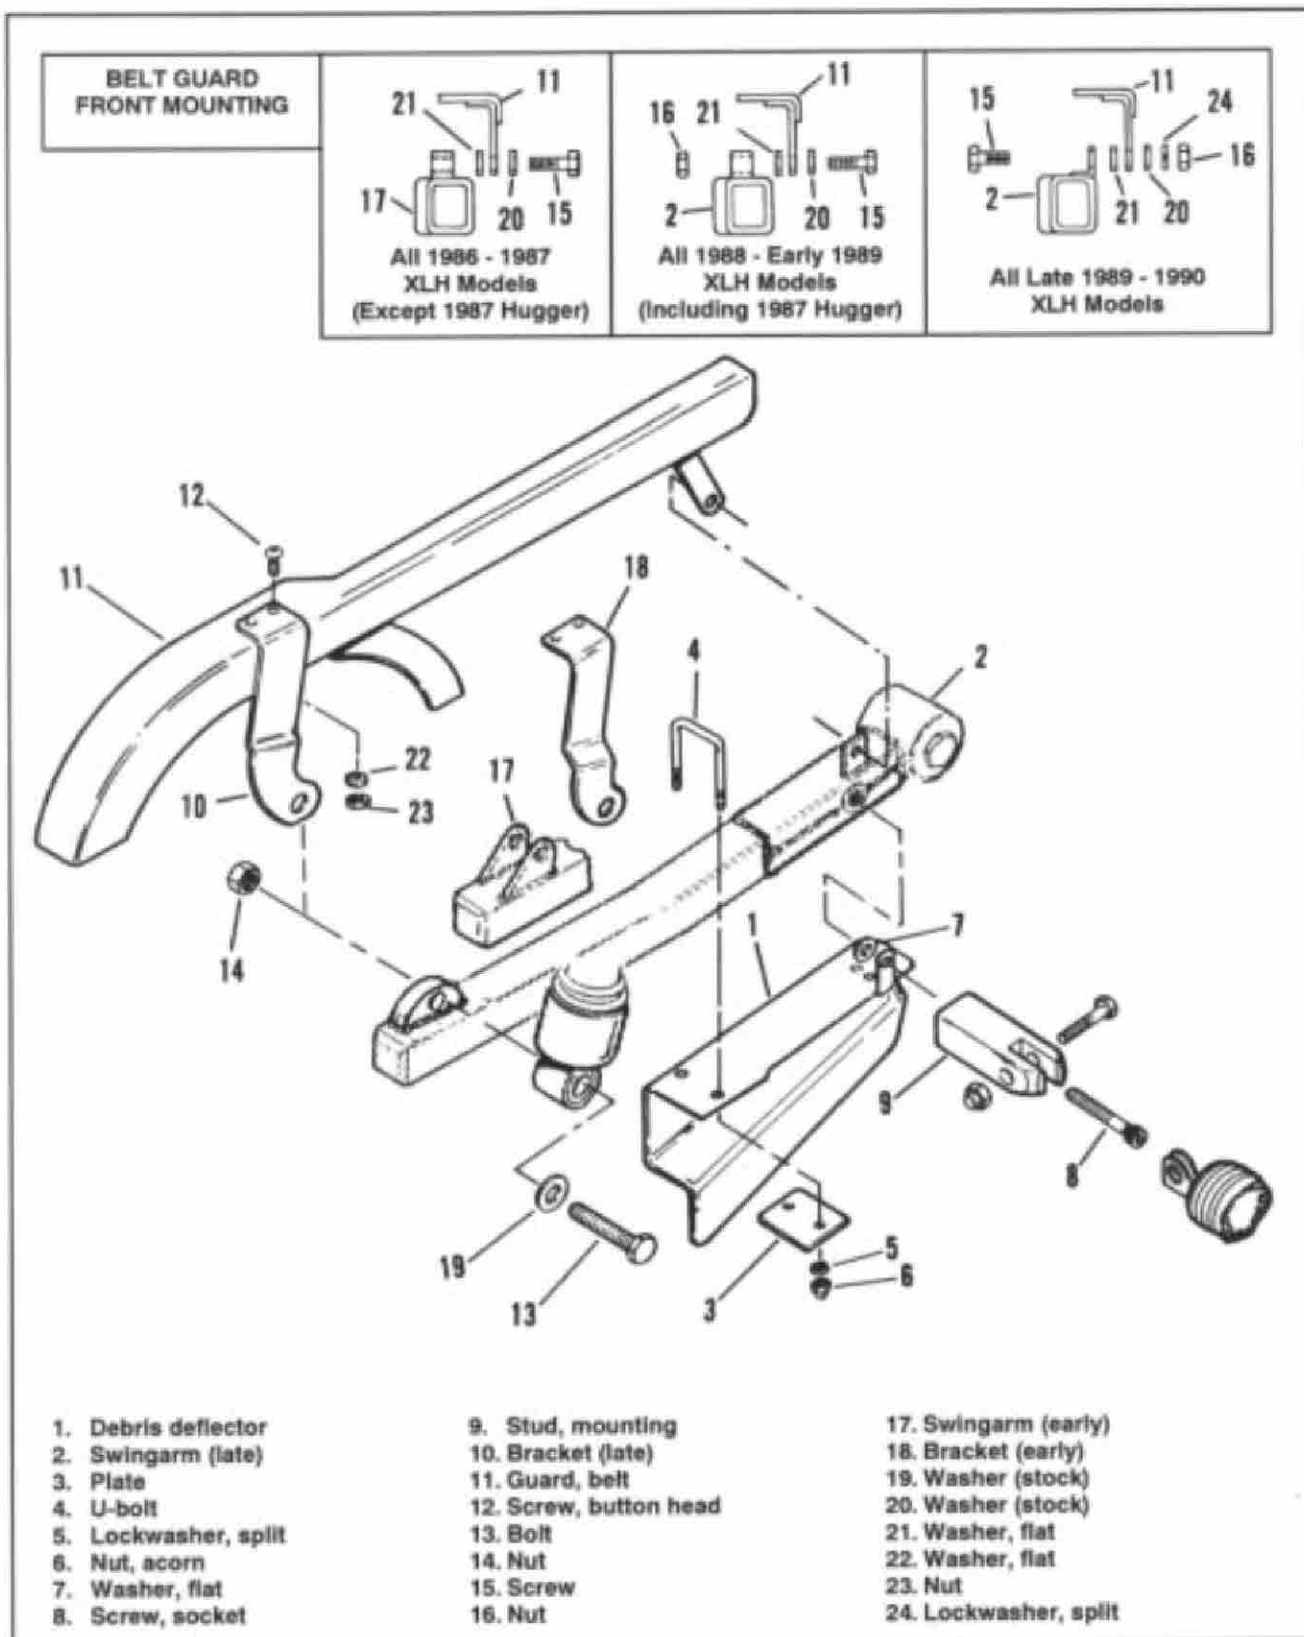

Figure 5. Debris Deflector and Belt Guard Assembly
1. See Figure 5. Place debris deflector (1) from kit in position under swingarm (2). Place plate (3) from kit under flange of deflector and align mounting holes.
2. Place U-bolt (4) from kit over top of swingarm (2), through holes in top of debris deflector (1) and through holes in plate (3).
3. Install a #10 split lockwasher (5) and #10-32 acorn nut (6) from kit over each leg of U-bolt. Tighten finger tight.
1. See Figure 5. Place rear mounting bracket (18 or 10) on top of belt guard (11) and align mounting holes.
2. Attach rear mounting bracket to belt guard with two #10-32 x 1/2 in. button head screws (12), #10 flat washers (22) and #10-32 hex locknuts (23) from kit.
3. Position belt guard (11) with rear mounting bracket inboard of shock absorber mounting lug and with front bracket outboard of original chain guard mounting lug.
4. Insert original shock mounting bolt (13) through washer (19), shock absorber, mounting lug on swingarm, and belt guard rear bracket. Secure with nut (14). Tighten to 50-55 ft-lbs torque.
- **1986 - 1987 XLH models (except 1987 Hugger):** Insert original 3/8-24 x 1 in. screw (15) through original flat washer (20), belt guard mounting bracket (11) (outboard side), 37/64 in. flat washer (21) from kit and into tapped hole in mounting lug of swingarm (17). Tighten to 33 ft-lbs torque.
- **1988 - Early 1989 XLH models (including 1987 Hugger):** Insert original 3/8-16 x 1 in. screw (15) through original flat washer (20), belt guard mounting bracket (11) (outboard side), 37/64 in. flat washer (21) from kit, and hole in mounting lug of swingarm (2). Secure with original 3/8-16 nut. Tighten to 33 ft-lbs torque.
- **Late 1989 - 1990 models:** Elongate (approximately 1/8 in.) bottom of hole in front mounting bracket on swingarm (2). Insert original 5/16-18 x 3/4 in. screw (15) through mounting bracket (inboard side) on swingarm (2), 37/64 in. flat washer (21) from kit, belt guard mounting bracket (11), original flat washer (20), and original lockwasher (24). Secure with original 5/16-18 nut (16). Tighten to 19 ft-lbs torque.